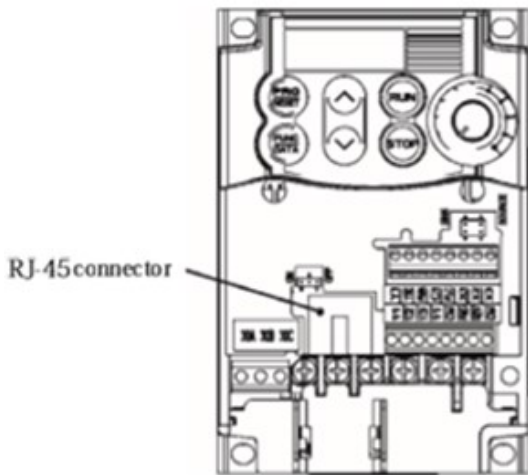

Figure F1-FUJI VFD Connections
1. Locate the communication card as shown in Figure F1